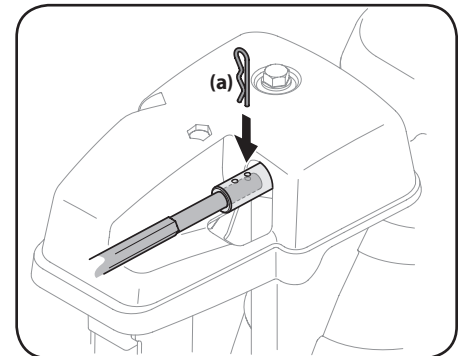

Figure 2-21
7. Push chute control rod toward control panel until hole in rod lines up with hole in chute control input closest to chute control assembly and insert hairpin clip (a) removed in Step 1. See Figure 2-21.